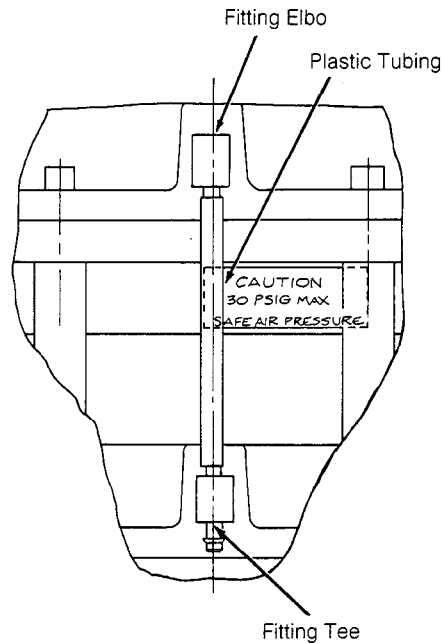

Figure 4. MK-8XXX Actuator Cutaway (MK-88XX Shown)
4. Remove upper and middle housing, bolts and diaphragms as required. (See Figure 4.)